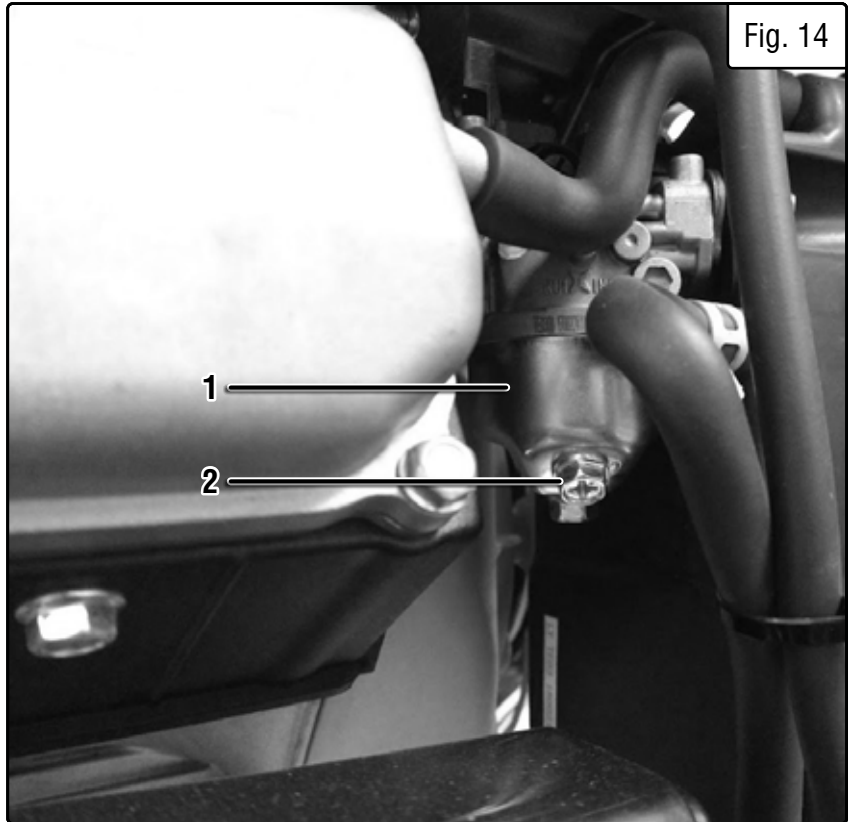

Fig. 14
3. The carburetor (Fig. 14 - 1) can be accessed on the left of the generator, right behind the air filter.